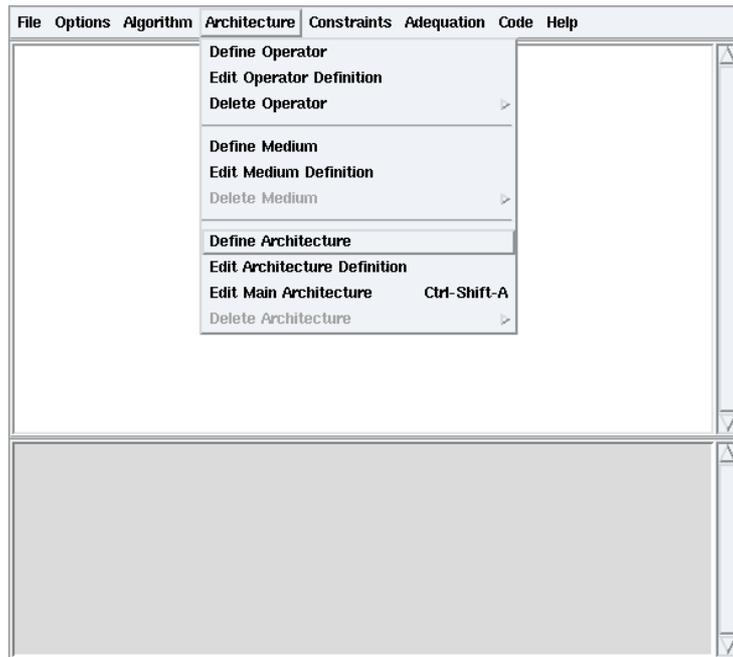

Figure 1.14: Architecture / Define Architecture
- from the main window: **Architecture / Define Architecture** (cf. figure 1.14) → dialog window: type `ArchiOneOperator` then click **OK** → definition window;
- from the main window: **Architecture / Define Architecture** (*cf.* figure 1.14) → dialog window `ArchiSamPointToPoint` → definition window;
- from the main window: **Architecture / Define Architecture** (cf. figure 1.14) → dialog window: `ArchiSamMultiPoint` → `ArchiSamMultiPoint` definition window;
- from the main window: **Architecture / Define Architecture** (cf. figure 1.14) → dialog window `ArchiRam` → `ArchiRam` definition window;